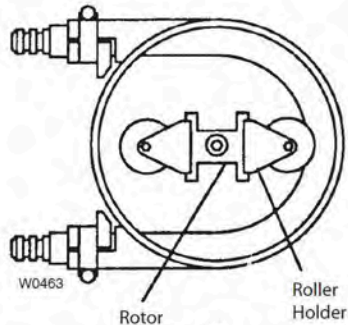

Figure 9
3. See Figure 9. Position rotor as shown.